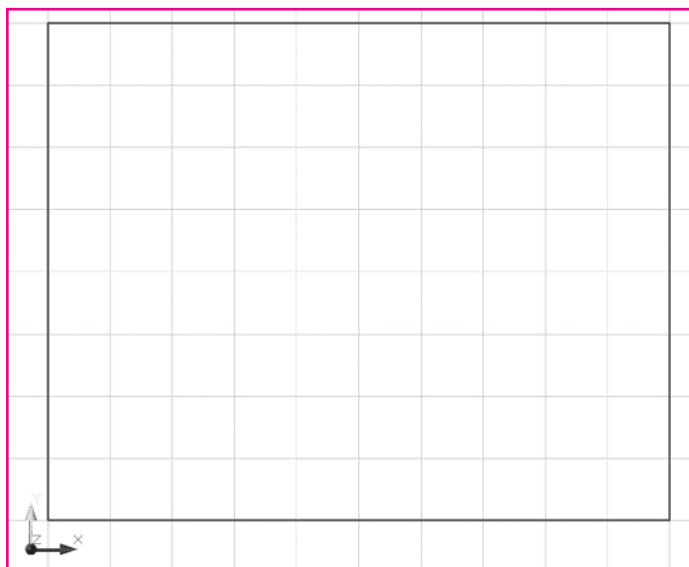

Fig. 40-1
4. Draw the base of the storage shed as shown in Fig. 40-1 using the **LINE** command. Place the lower left corner at  $x = 1, y = 1$ . The shed's base is  $8' \times 10'$ .